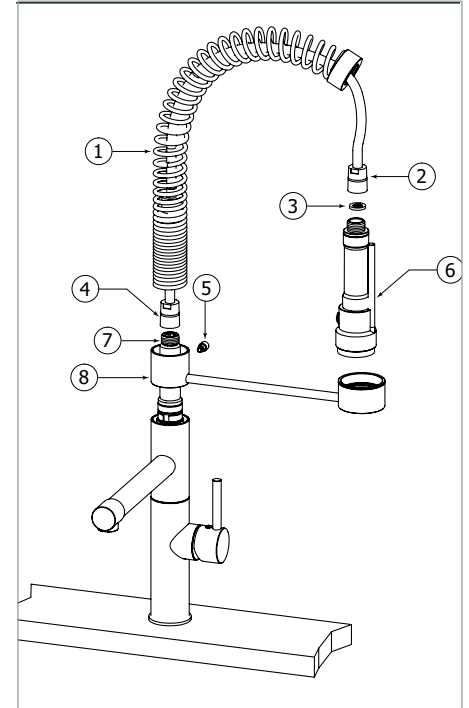

Fig.3
Fit the handset support bracket (8) on to the column pointing to the right over the faucet handle and secure in place with screw (5). Feed the hexagon end of the shower hose (4) through the spring (1) from the top. Put a flat washer (7) into the hexagon nut and screw the nut onto the top of the column. Slide the bottom of the spring into the top of the column until secure. Put the other flat washer (3) into the conical nut at the other end of the hose and screw the hose onto the handset (6). Fig. 3.
Mettez l'autre rondelle plate (3) dans l'écrou conique de l'autre côté du flexible et sécuriser le flexible avec le spray (6). Fig. 3.